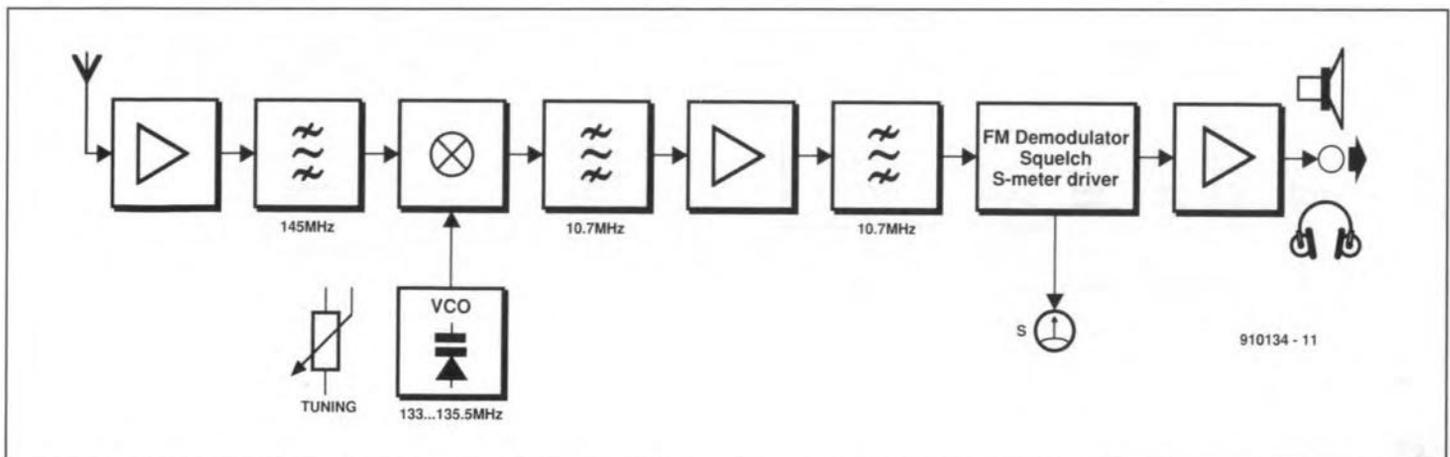

Fig. 1. Block diagram of the receiver: a classic superheterodyne.
The block diagram (Fig. 1) of the receiver shows that it is a 'classic' superheterodyne with a single intermediate frequency (IF) of 10.7 MHz. The antenna signal is amplified and passed through a band filter before it is applied to an integrated double-balanced mixer. The local oscillator signal is supplied